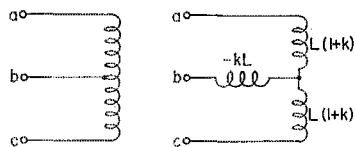

Fig. 7 — T equivalent of a center-tapped coil.
To use the curves of Fig. 6 or the relations of Eq. (5), a relation between coupling coefficient and coil dimensions is needed. Fortunately, this relation is not complex for a center-tapped coil. As shown in Fig. 7, a center-tapped coil can be replaced by a T equivalent. Looking into terminals  $a-b$  or  $b-c$  we see merely  $L$ , but looking into terminals  $a-c$  we see  $2L(1+k)$ . One can apply the Wheeler formula4 for the inductance of a single-layer solenoid that is not too short (length at least equal to 0.8 times diameter) to solve for coupling coefficient  $k$ . This is done by first calculating the inductance between  $a-b$  (or  $b-c$ ) for a coil of half the total length and half the total turns, and then the inductance between  $a-c$  for a coil of the total length and total turns. These two relations when solved simultaneously
From Fig. 6 at  $K_2/K_1 = 3.5$ , we find  $K_2 = 1.92$ ,  $K_1 = 0.55$  and  $k = 0.3$ . From Fig. 7 at  $k = 0.3$  we find  $l/d$  of the coil to be 1.05. Arbi-